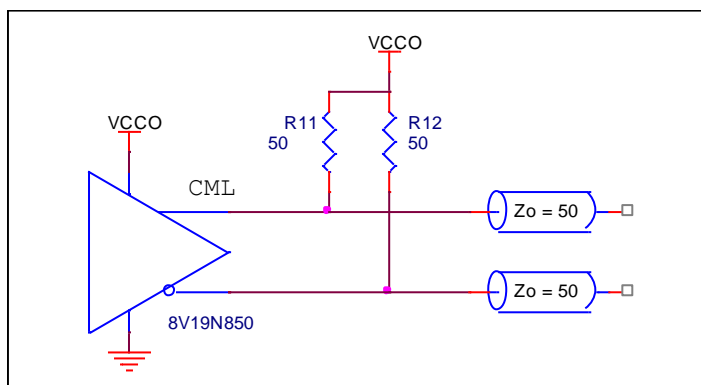

Figure 2. CML Driver Example
- Figure 2. CML Driver Example2